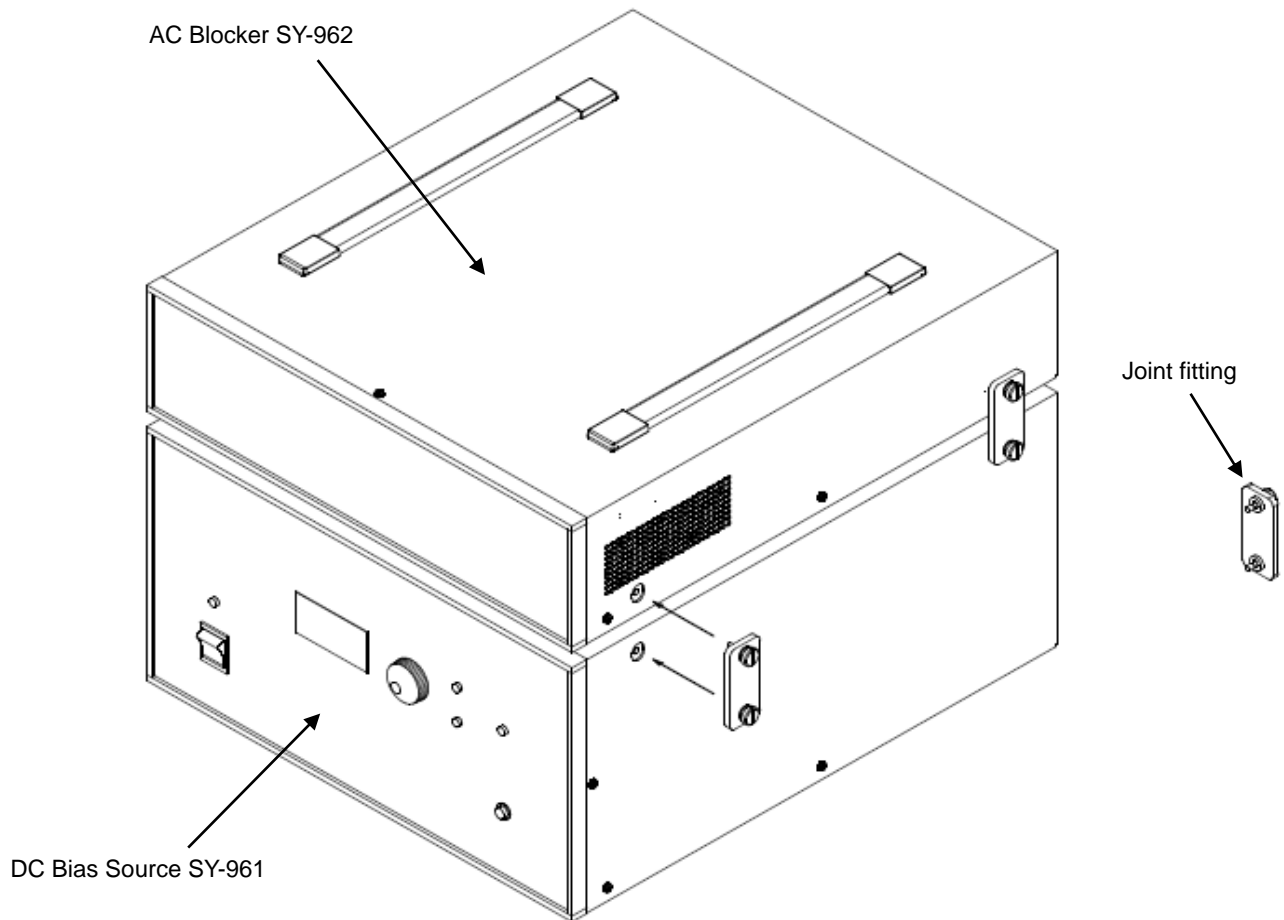

Fig. 4-2 Jointing SY-961 and SY-962
- This section explains the joint procedures of DC Bias Source SY-961 and AC Blocker SY-962 using Fig. 4-2.